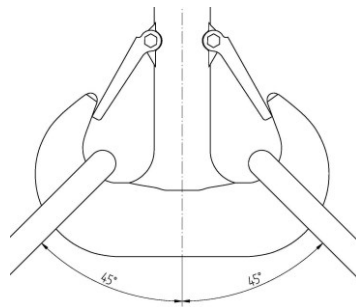

Fig. 2
- ▶ Ramshorn hooks must be loaded equally at both sides. (see Fig. 2)